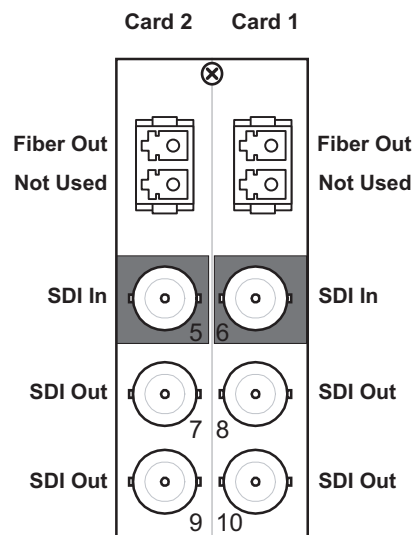

Figure 2.4 Cable Connections for the 8320AR-045 Rear Module
- **8320AR-045** Split Rear Module — Each module occupies two slots and accommodates two cards. Each module provides one optical output, one SDI input, and two SDI outputs per card. Refer to **Figure 2.4**.